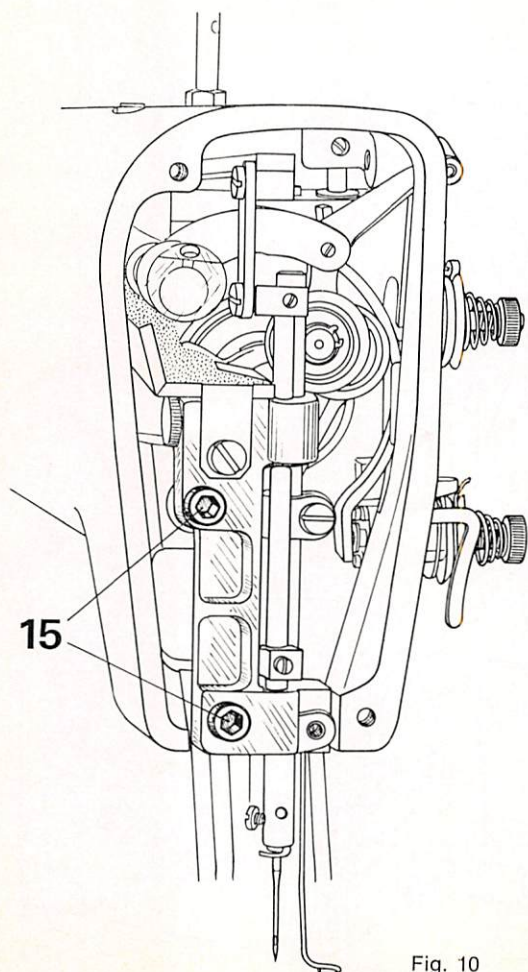

Fig. 10
**10. Centering the needle in the needle hole (Fig. 10)**